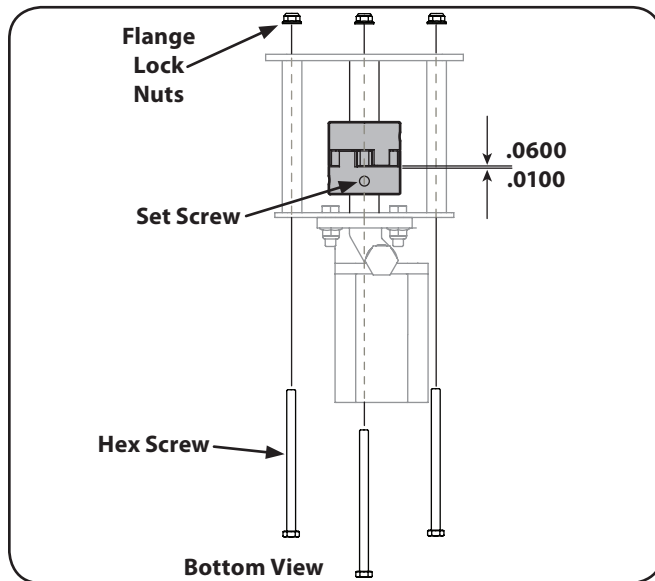

Figure 7-1
2. Remove the three flange lock nuts and hex screws that secure the pump to the coupling shield. Two flange lock nuts and hex screws are at the bottom corners and one is in the top center. See Fig. 7-1.
11. Set .0100" to .0600" of a clearance/gap between the nylon "spider" and the engine coupling half by sliding a feeler gauge or matchbook cover between the nylon "spider" and the engine coupling half and moving the pump coupling half with the set screw. See Fig. 7-1.